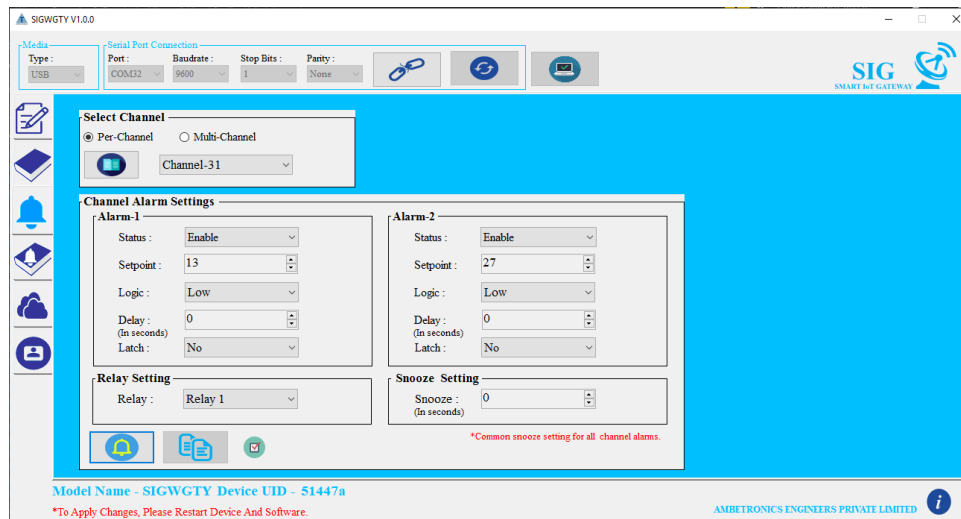

Figure 25
- After setting all parameters, click on  button. If all configurations are done successfully then  right check will appear on window or if settings are not done properly, then  wrong check will appear on window as show in Figure 25.